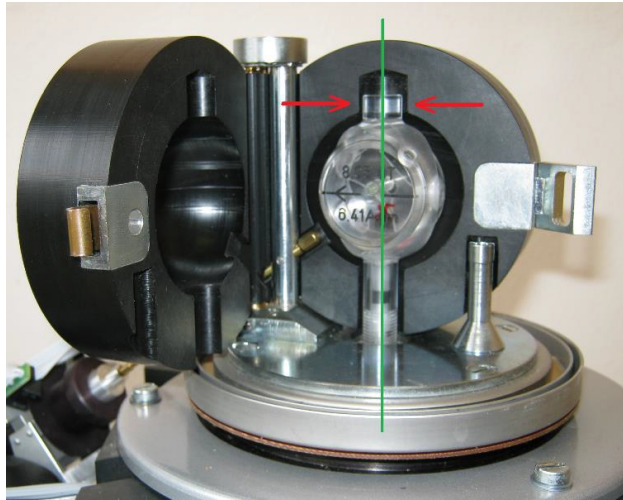

Figure 7: Holder in correct position
Check the correct position of the holder inside the coils, according to the Fig. 7. Perform the operations described in **Adjustment 3**.
1. Check the axis of sample holder marked by the green line in Fig. 7. Top part of holder must be in the middle of space marked by the red arrows. If not, adjust the holder according to the next step.